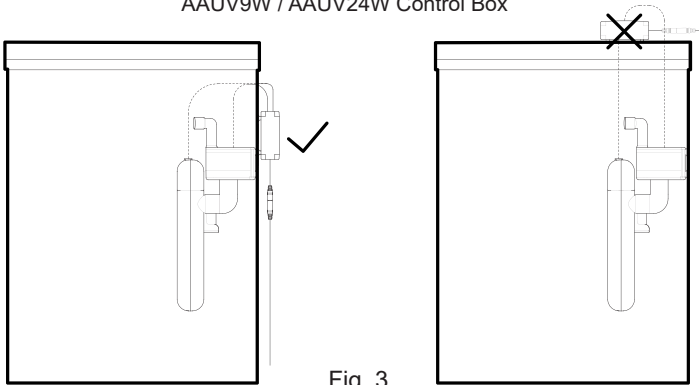

Fig. 3
7. To avoid the risk of short circuit by water vapor, the Control Box MUST be affixed onto the outside of the tank but NOT on the top of the tank. Refer to Fig.3